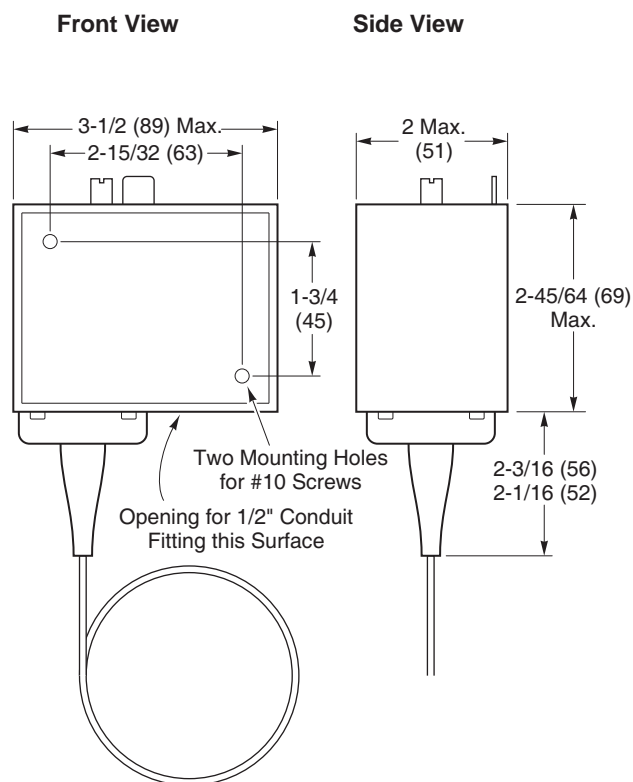

Figure-6 TC-52xx Mounting Dimensions.
7. Mount the case with two screws (#10 maximum) in the screw slots in the back of the case. See Figure-6.